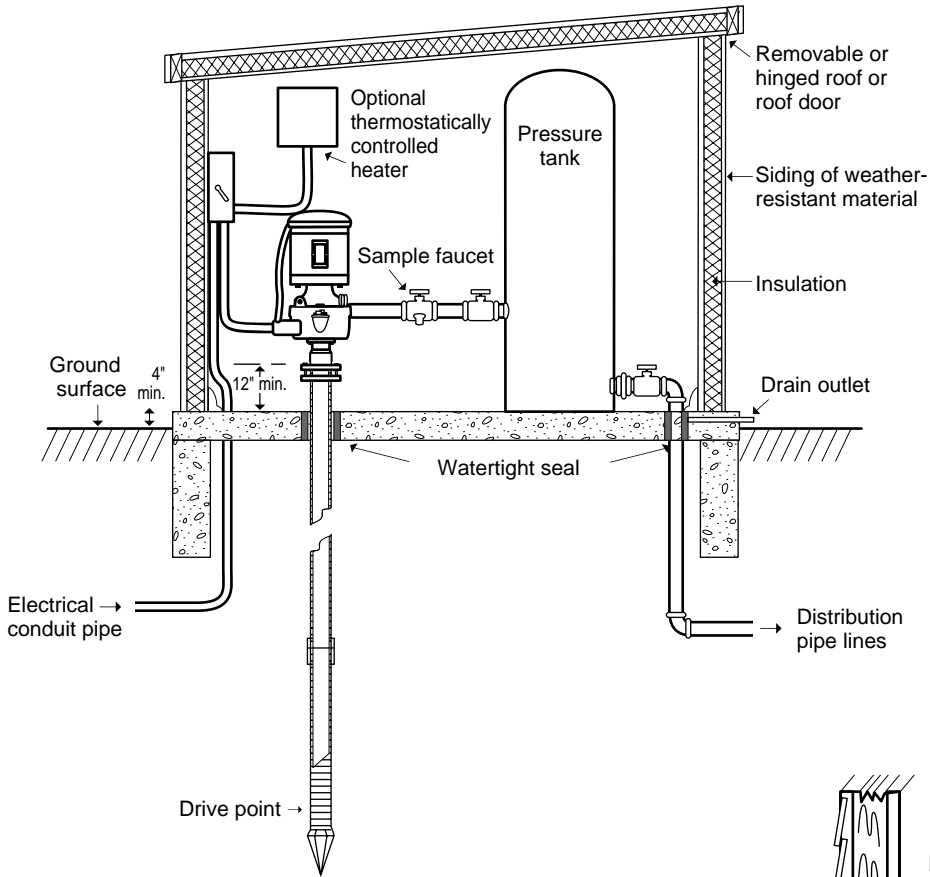

Figure 4.
- ▼ **Cap:** The top of the drive-pipe must be sealed with a vermin-proof cap such as a threaded cap that will prevent the entry of insects and mice. Many pumps are directly connected to the well pipe as, for example, in *Figure 4*. A sanitary well seal with compressible gaskets must be used for such installations.
- ▼ An above-ground building or pump house (*Figure 4*).